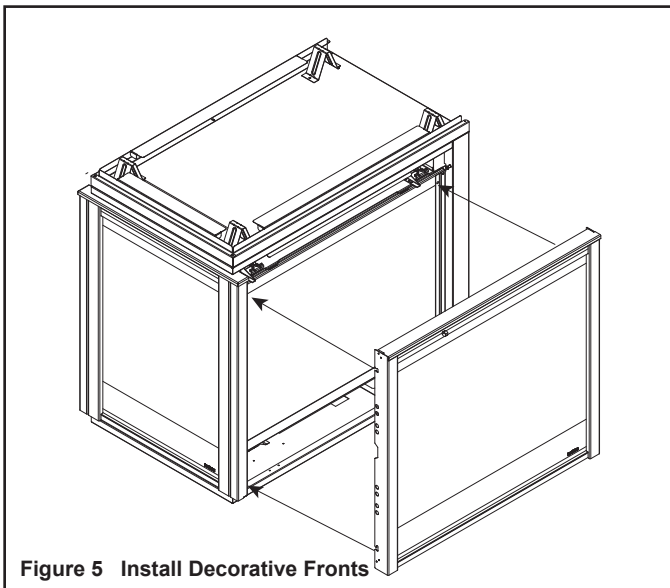
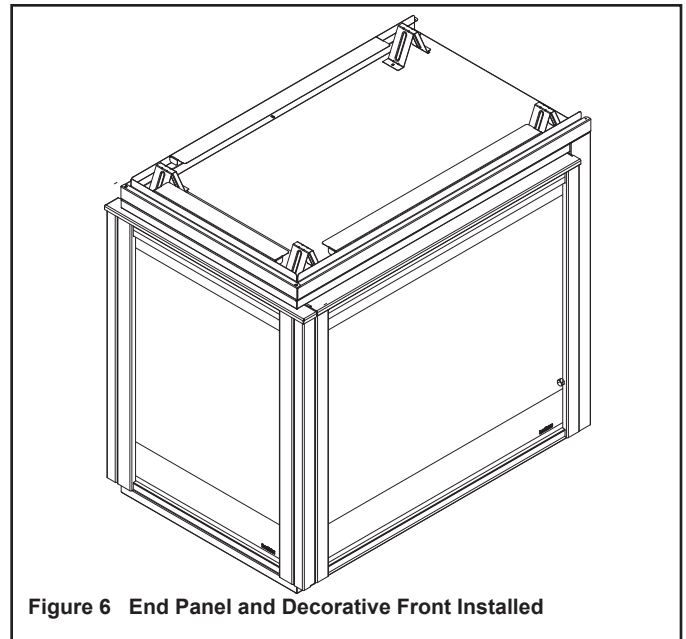

Figure 5 Install Decorative Fronts
Figure 6 End Panel and Decorative Front Installed
6. Install Decorative fronts on each side of appliance per instructions included with decorative fronts. Pull gently on both decorative fronts and end panel to ensure that J-Hooks are seated properly and securely on shoulder bolts. See Figure 5 and Figure 6.